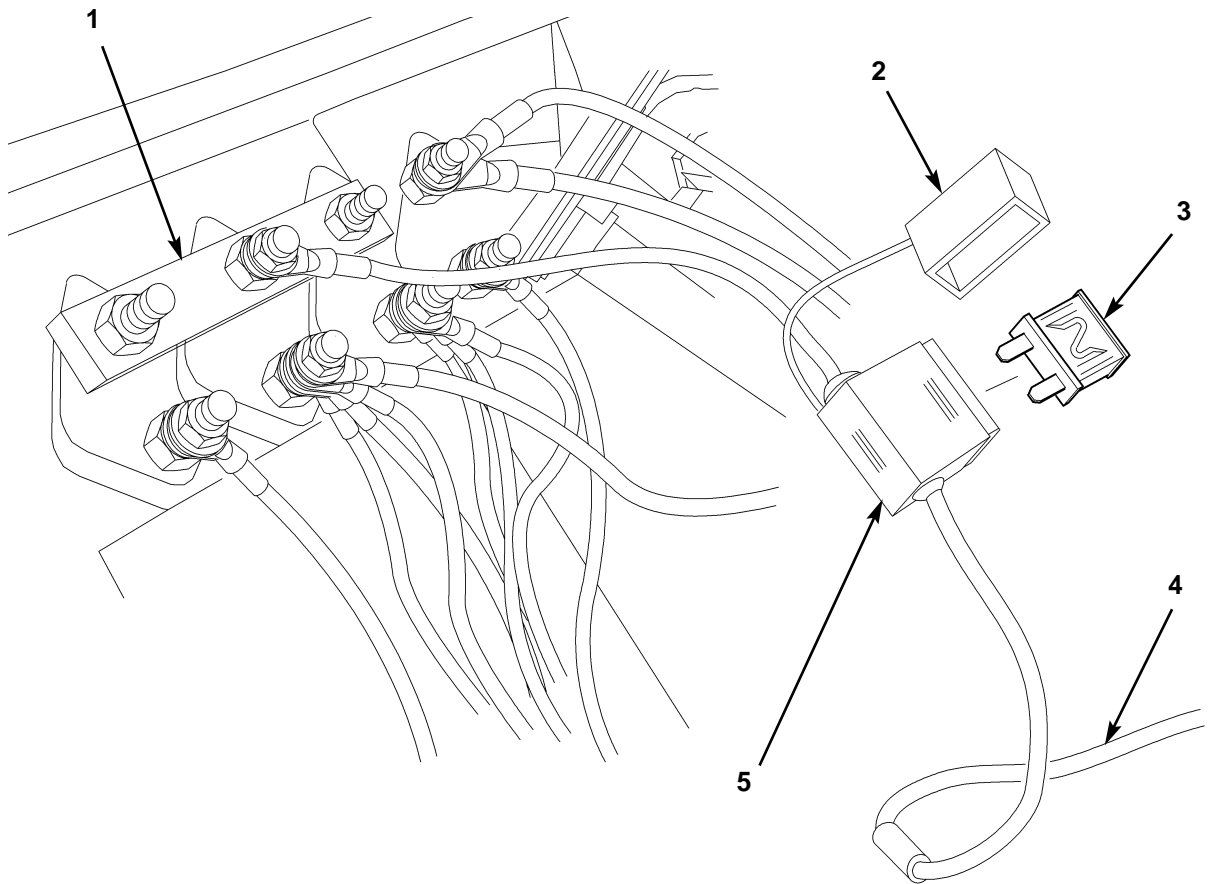

Figure 3. Checking ABS ECU 5-amp Fuse.
7. Locate ABS ECU 5-amp fused orange wire (figure 3, item 4) and follow it to black fuse connector (figure 3, item 5) near CB#3 (figure 3, item 1).
8. Pull cover (figure 3, item 2) off fuse connector (figure 3, item 5) and remove fuse (figure 3, item 3) from fuse connector (figure 3, item 5).
9. Examine fuse (figure 3, item 3). Discard fuse (figure 3, item 3) if center wire is burned away.
1. Install fuse (figure 3, item 3) on fuse connector (figure 3, item 5) and push cover (figure 3, item 2) on fuse connector (figure 3, item 5).